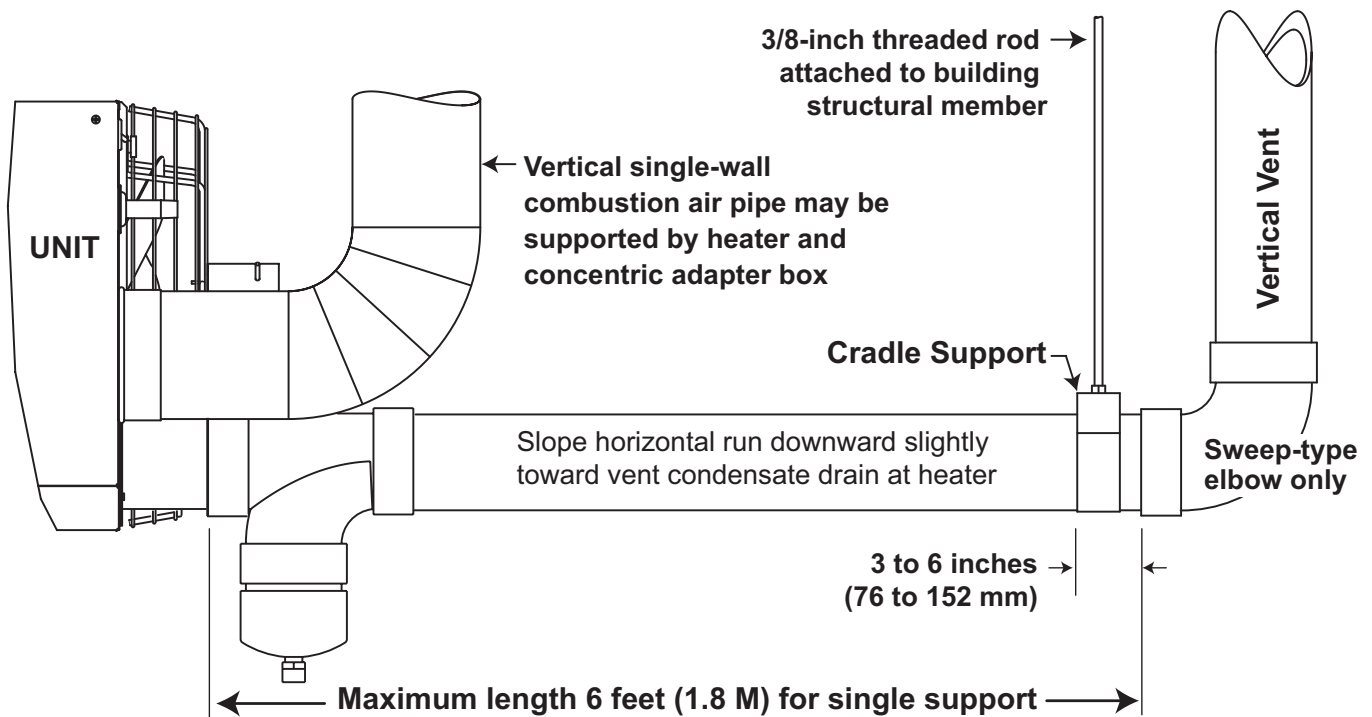

Figure 6. Vent Pipe Support
- **Vertical CPVC or PVC vent:** it is recommended that an engineer design the vertical support system. An acceptable field-supplied cradle-type support that allows for expansion for a simple vertical vent that is 30 feet (9.1 meters) or less and rises closely from the heater is shown in Figure 6.